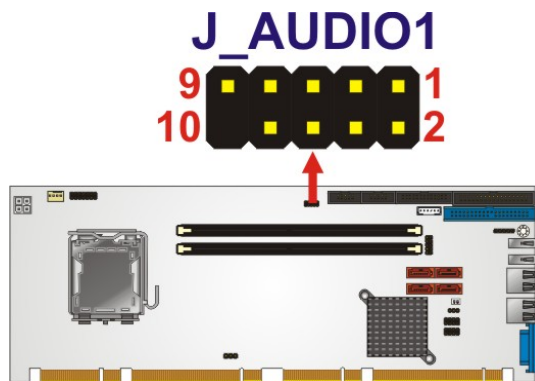

Figure 3-2: Audio Kit Connector Location
- CN Location:** See **Figure 3-2**